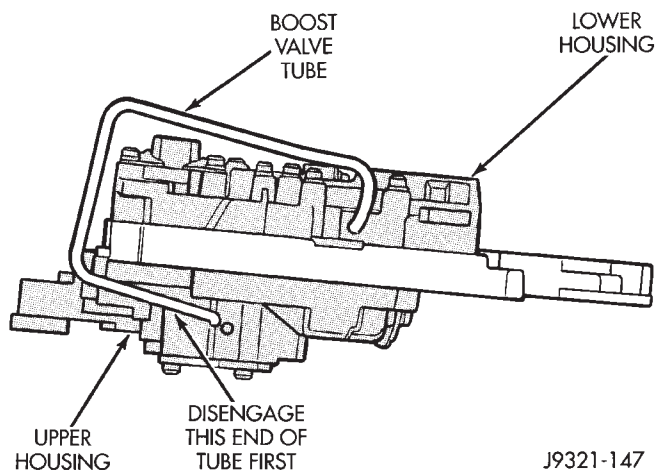

Fig. 104 Boost Valve Tube Removal—46RH
(17) Remove boost valve connecting tube (Fig. 104). Disengage tube from upper housing port first. Then rock opposite end of tube back and forth to work it out of lower housing.